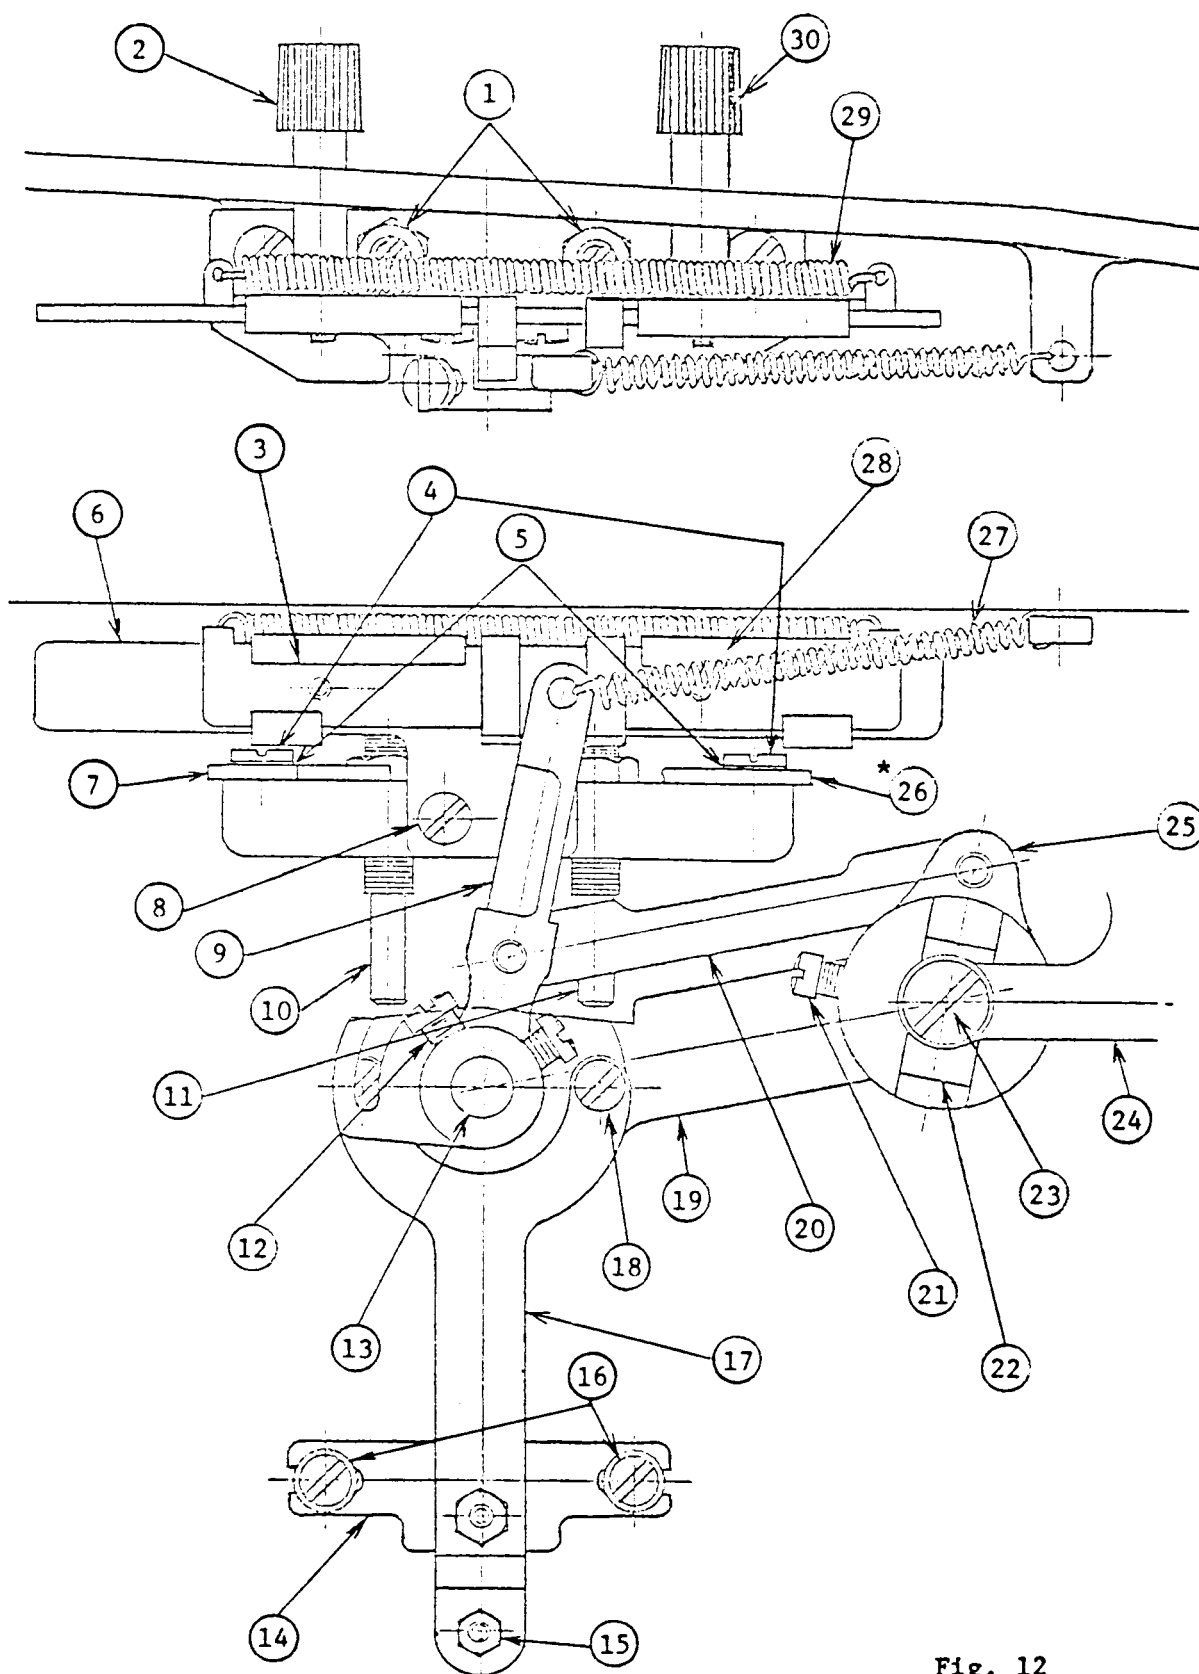

Fig. 12
5. If there is a sidewise movement in the needle, loosen bight amplitude stop plate (left) set screw and move left bight amplitude stop plate (marked with asterisk) to the left or right as required, until the sidewise movement is eliminated. (Fig. 12)